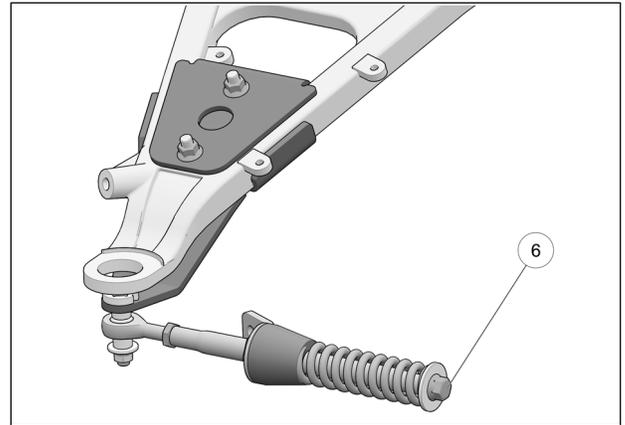

Fig. 19
- Verify that spring assembly bolt (6) is tightened to the recommended torque specification: 75 N•m [55 lb•ft]. Refer to Fig. 19